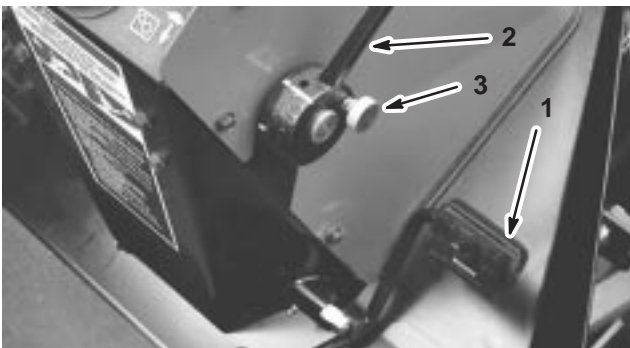

Figure 17
The traction pedal (Fig. 17) controls forward and reverse operation. Depress top of pedal to move forward and bottom to move backward. Ground speed depends on how far pedal is depressed. For no load, maximum ground speed, fully depress pedal while throttle is in FAST. For maximum power under load or when going uphill, keep engine rpm high by having throttle in FAST and traction pedal partially engaged. If engine rpm begins to decrease due to load, gradually reduce traction pedal pressure until engine speed is increased.
The axle shift lever, located on right side of console (Fig. 17), selects front drive mode. Pull out lockout knob, move lever rearward for mowing operation and forward for transport operation, then release knob to lock selection. Lever must be in LO position to mow. Middle position (N) is for towing.